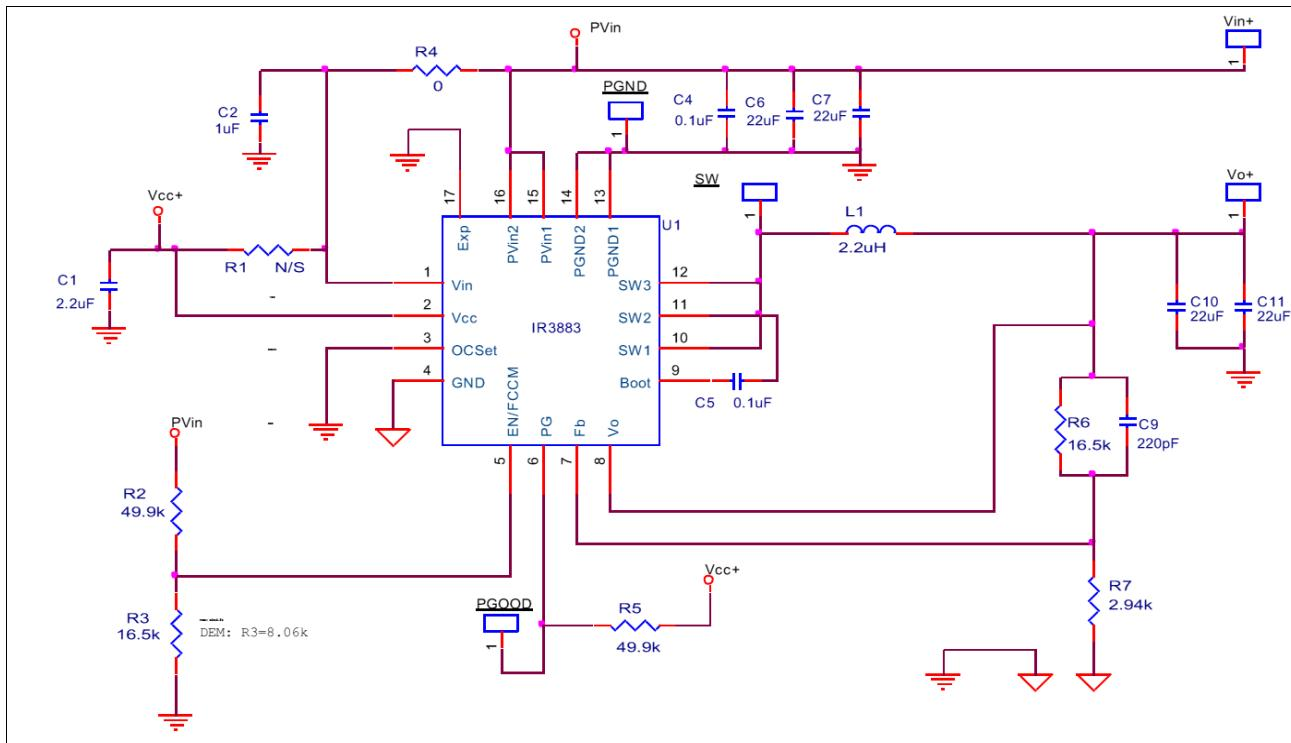

Figure 7-1 Application Circuit for a 12V to 3.3V, 3A Point of Load Converter
2. R_{FB1} and R_{FB2} are the top and bottom feedback resistor respectively, shown as R6 and R7 respectively in **Figure 7-1**.